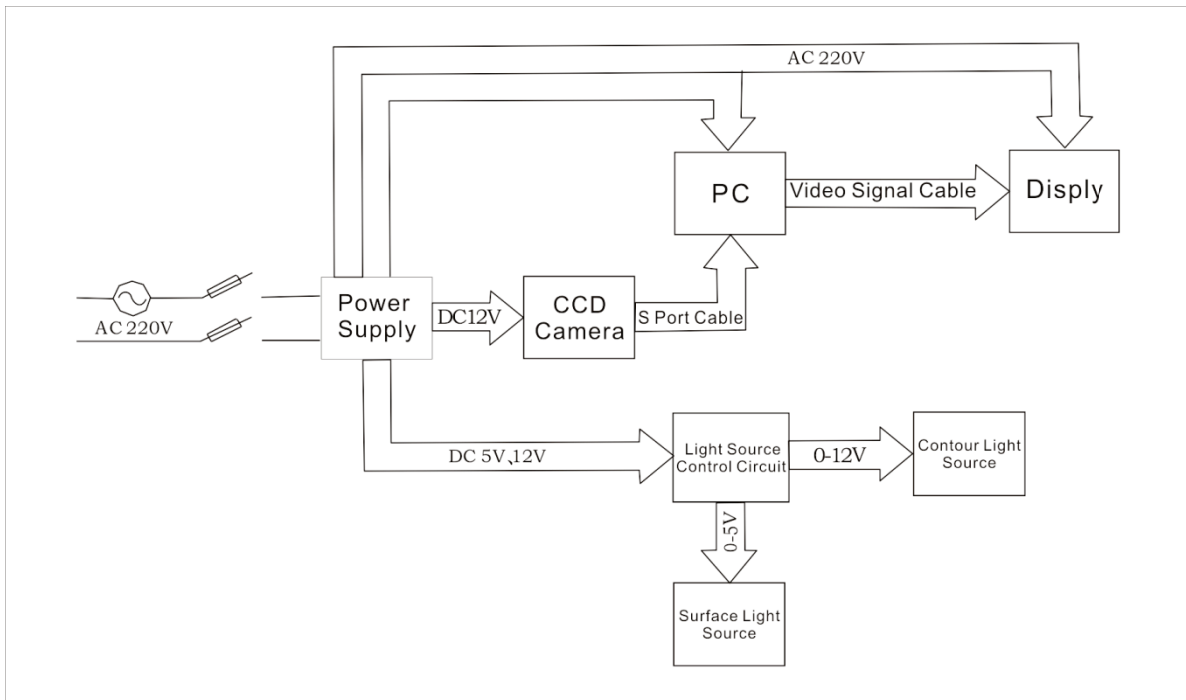

Fig 2 Operating Principle
Optical vision measurement is one of the high precision measuring method is more advanced at present, its working principle is shown in Figure 2, the measured Work piece(placed on the table) by LED surface (4)or contour light (table in lighting), the zoom lens (2), color CCD (1 cover) the uptake of images, even good computer by special measuring software for its target measurement, through Y to X, (longitudinal) to (horizontal movement) drives the grating (6 and 10) in X, mobile Y direction, by measuring software to complete the measurement work.